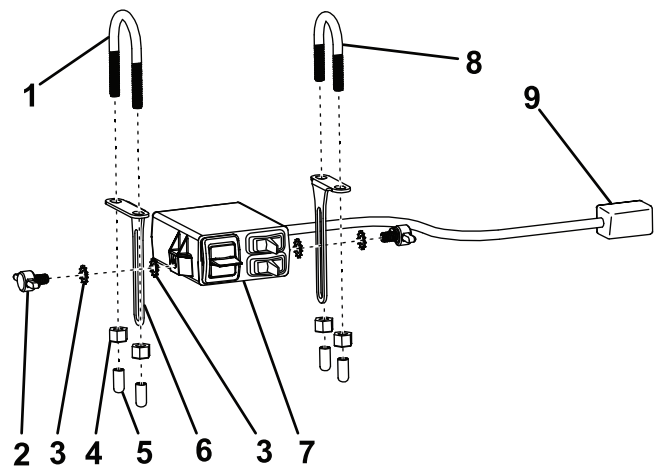

Figure 4
2. Secure 1 of the mounting brackets along the left side of the vehicle control cluster using the long U-bolt and 2 self-locking nuts (1/4 inch) as shown in Figure 4.
3. Secure the other mounting bracket along the right side of the vehicle control cluster using the short U-bolt and 2 self-locking nuts (1/4 inch) as shown in Figure 4.
4. Secure the switch box to the mounting brackets using 4 star washers and 2 thumb screws and adjust it to the desired position (Figure 4).
5. Slide the 4 rubber end caps over the ends of the U-bolts (Figure 4).